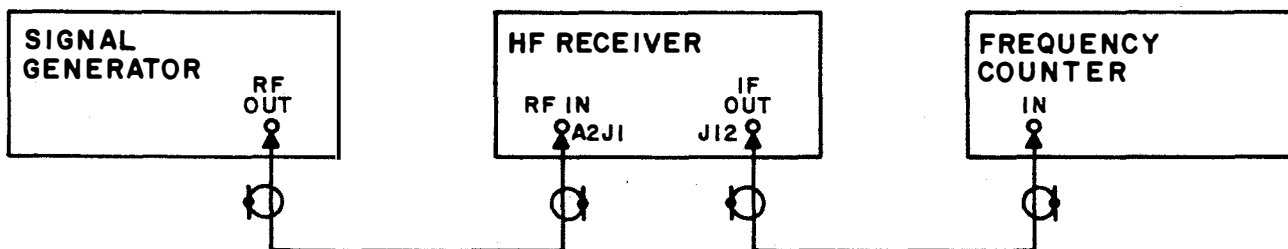

Figure 4-4. Frequency Tuning Performance, Test Setup
(1) Test equipment required. This test will utilize a signal generator and a frequency counter. Specifics are set forth in table 6-1.
(2) Technician rating required. An Electronic Technician Second Class or above should perform this test.
(3) Set up data. The test equipment should be connected to the receiver as shown in figure 4-4.